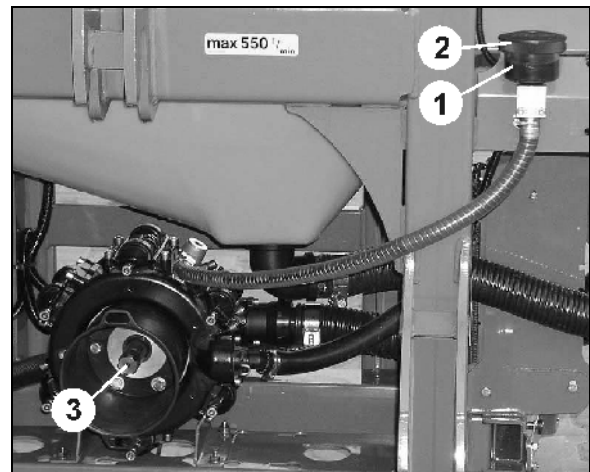

Fig. 139
1. Check whether the oil level is visible at the mark (1) with the pump not running and standing on a flat surface.
3. If the oil level is not visible at the mark (Fig. 139/1), remove the lid (Fig. 139/2) and top up with oil.
- 3.2 Rotate the drive shaft (Fig. 139/3) by hand until the used oil has all run out.